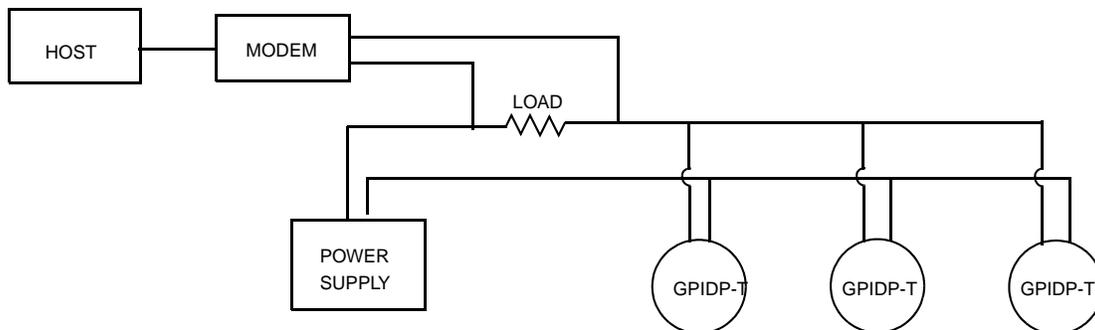

Figure 31. Typical Multidrop Network
Figure 31 shows a typical multidrop network. Do not use this figure as an installation diagram. Contact the HART Communications Foundation, (512) 794-0369, with specific requirements for multidrop applications.